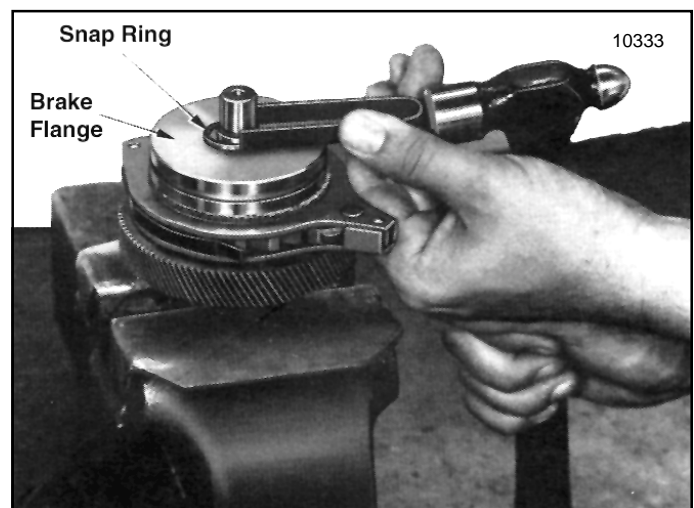

Figure 7-18. Removing Snap Ring from Load Brake Shaft
- (1) Place load brake and clutch assembly, flange up, in a vise equipped with brass or copper jaw plates to protect pinion gear teeth. Remove snap ring from end of load brake shaft (Figure 7-18).